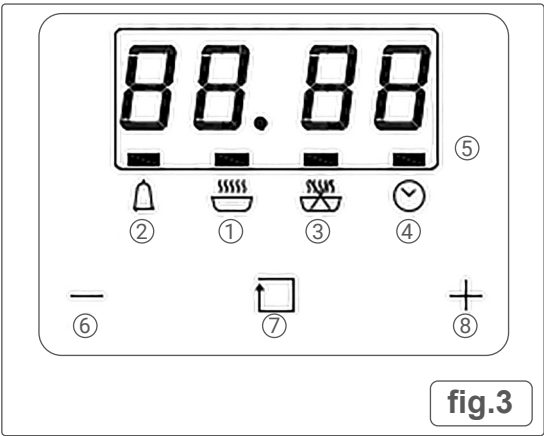

fig.3
Key to fig. 3
- **Setting the clock (fig.3)**
- Press Menu (7) repeatedly until the clock indicator flashes (5). While the clock indicator flashes, press '-' (6) or '+' (8) to set the time. When you've selected the desired time, the clock will run after approximately five seconds. The indicator will disappear.